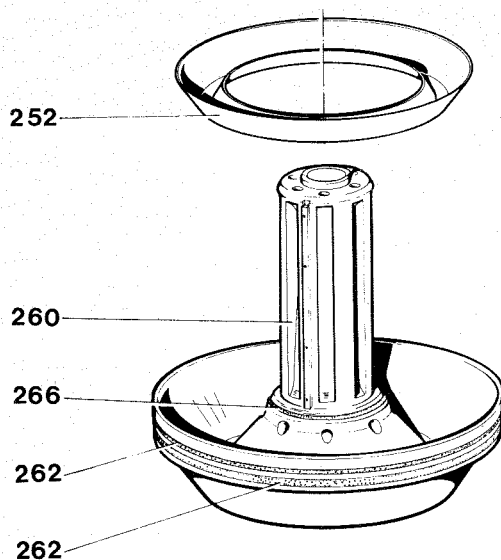

Fig. 4/6
- 8) Put gaskets 262 and 266 in appropriate grooves of distributor 260 (see fig.4/6). Proceed by the same method as for gaskets in sliding piston (see item 6) and note the following: